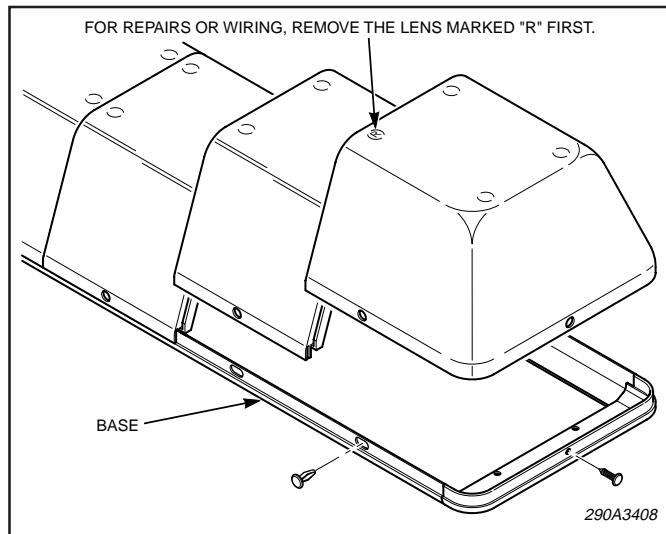

Figure 2.
c. See figure 2. Working from right to left, remove each lens starting with the lens marked "R".